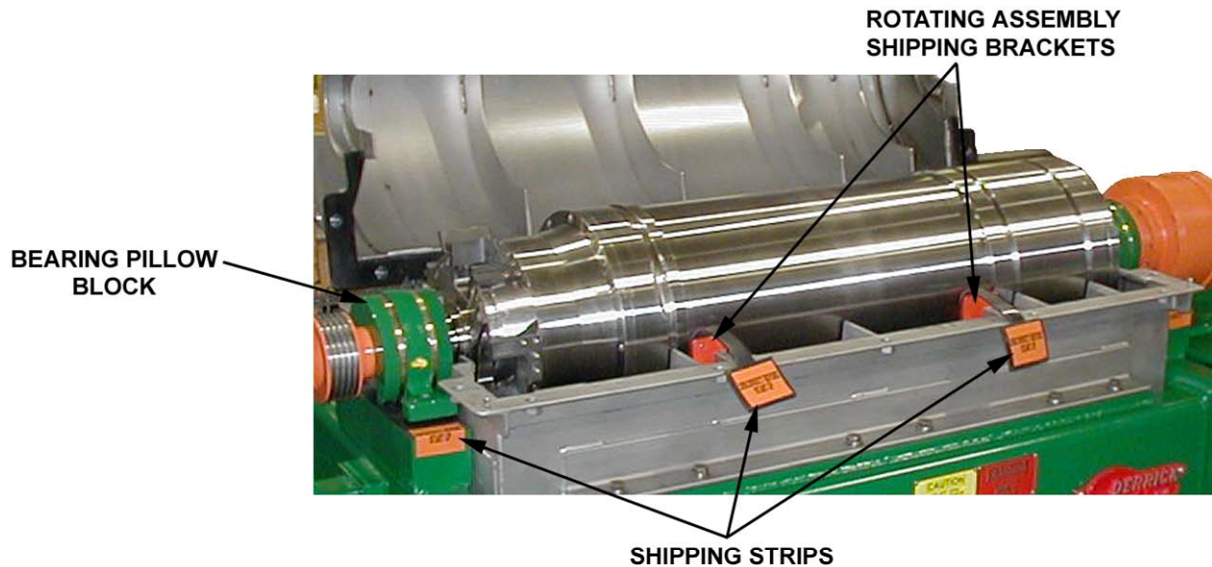

Figure 3-3 Shipping Components Locations
4. Remove rubber shipping strips under rotating assembly and bearing pillow blocks (Figure 3-3).